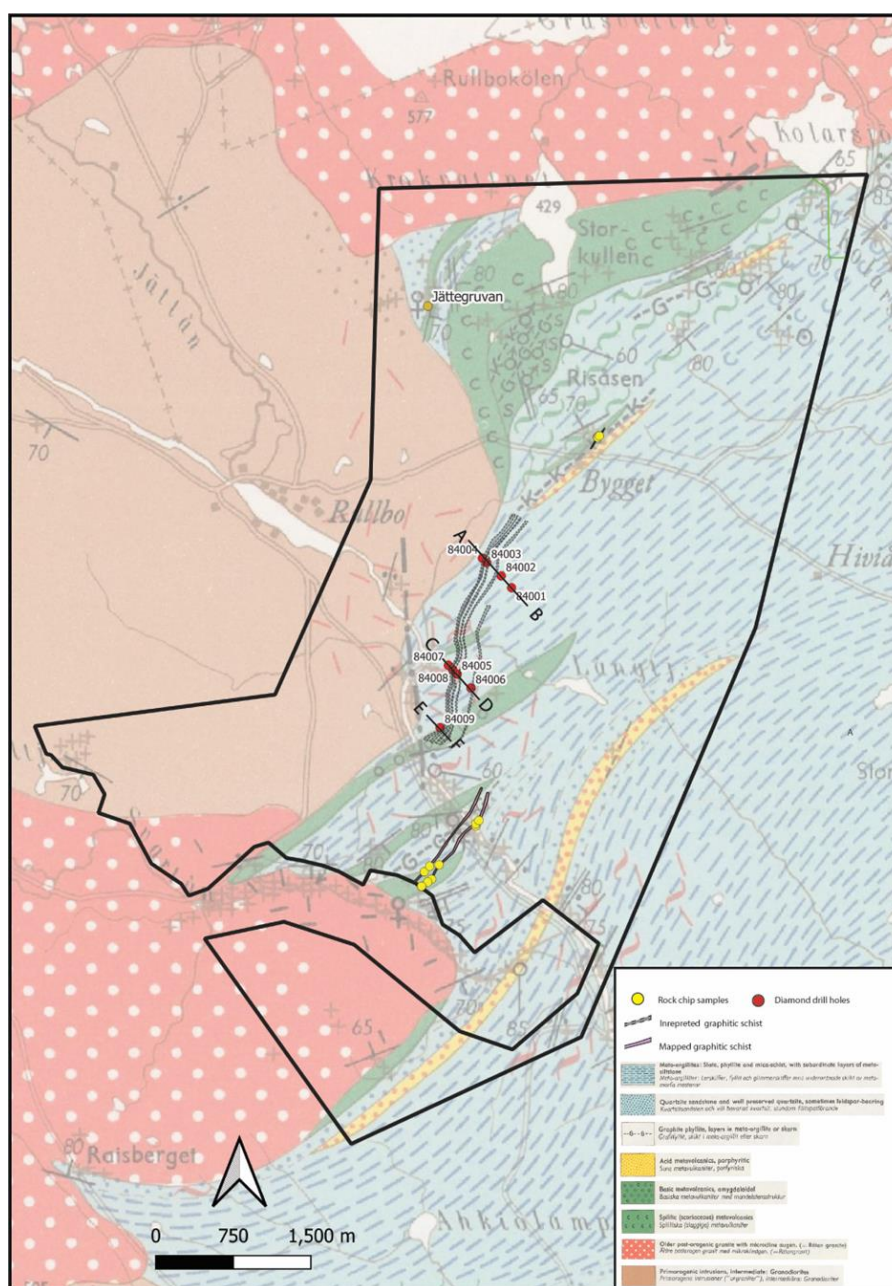

Figure 2. Rullbo 250k mapping with location of drillholes rock chip samples shown. Section lines of cross-sections displayed in Figure 3.
- **Rock chip samples were taken from outcropping graphitic shales (Figure 2). Samples were submitted to ALS laboratory in Sweden for multi-element analysis (AuME-TL44) and Total Graphitic Carbon (C-IR18).**
The project area has seen previous exploration primarily for base metals with no active graphite exploration. Mapping by SGAB¹ and follow-up drilling of 9 diamond drill holes² identified graphitic shales. Graphitic shales, with a locally significant sulphide content of mainly pyrite and pyrrhotite occur in a band between the quartzite in the east and the greenstones in the west (Figure 2). The graphite content in the shales
In conjunction with the core logging of historic core, WGR completed a field mapping and rock-chip sampling program. Twelve rock chip samples were taken from outcropping graphitic shales (Figure 2). Samples were submitted to ALS laboratory in Sweden for multi-element analysis (AuME-TL44) and Total Graphitic Carbon (C-IR18).